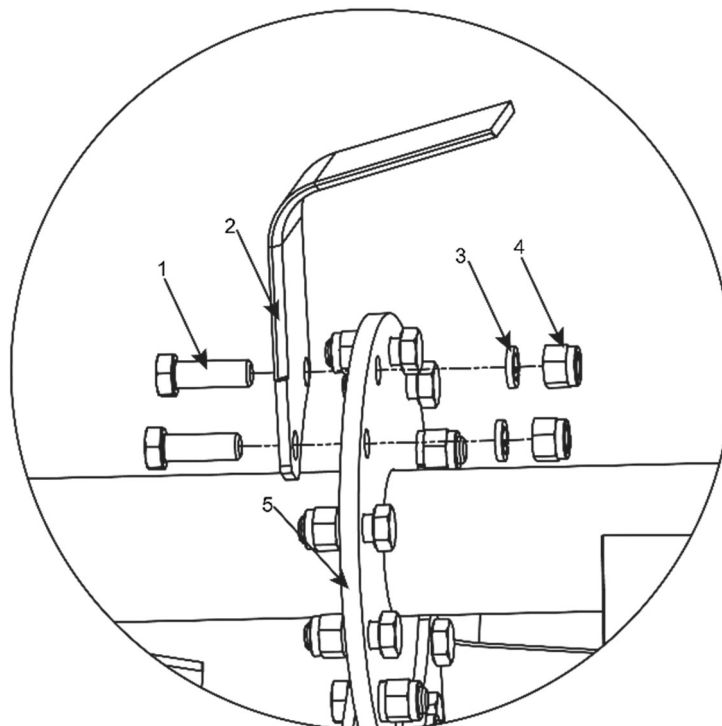

Figure 16
4. Install blade with bolt, washers, spring washer and locknut, refer to **Figure 16**.